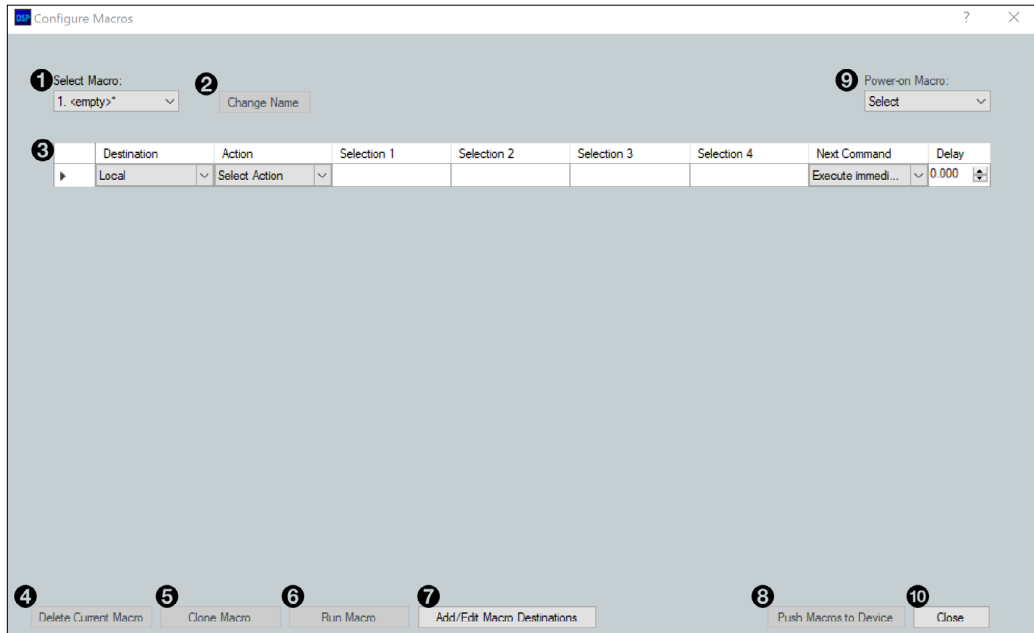

Figure 19. Configure Macros Screen
1. Select **Add/Edit Remote Destinations** (see figure 19, **7**).
4. Select **Push Macros to Device** (see figure 19, **8**).